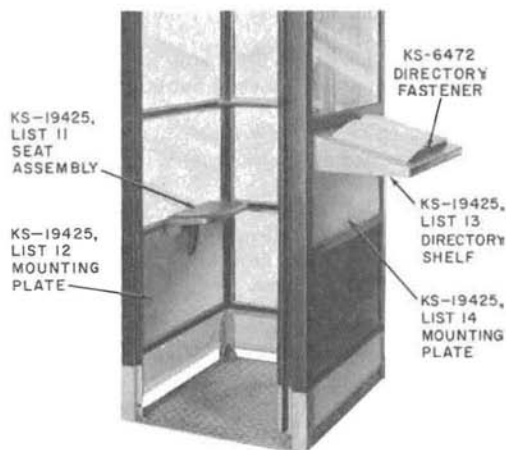

Fig. 12—KS-19425, List 11 Seat Assembly, KS-19425, List 13 Directory Shelf and Associated Mounting Plates
- 2.21 Refer to Fig. 12.
(c) **KS-19425, List 13 Directory Shelf (Fig. 12).**